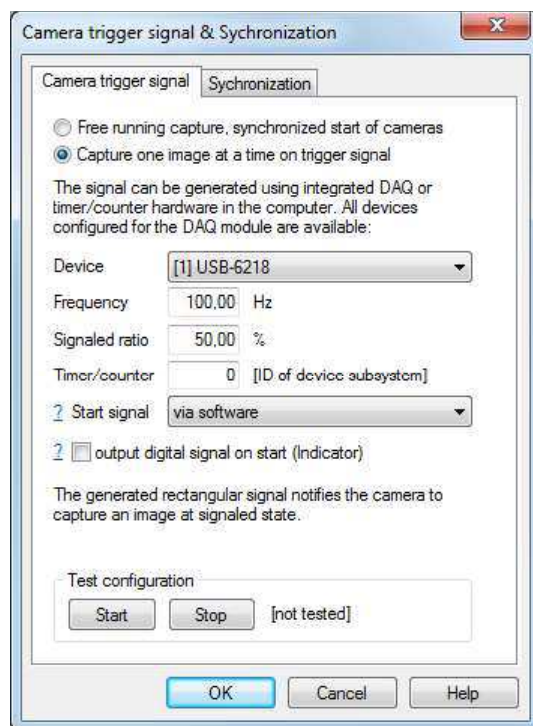

Figure 17.14: Trigger settings: USB-6218 and 100 Hz
- Settings: compare figure 17.14